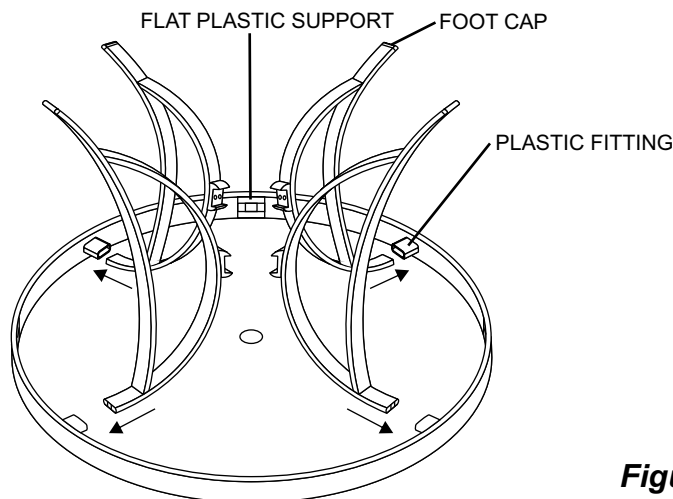
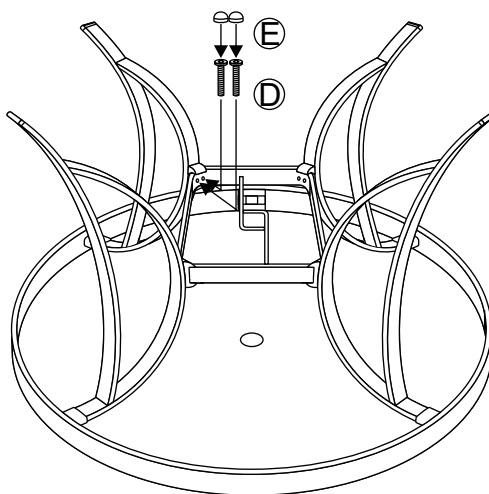

Figure 1
Figure 2
- 1 With the help of another person, place tabletop upside down on a flat, non-abrasive surface to avoid scratching the glass or rim. Note the plastic fittings on the inside of the table rim. These fittings slide. Adjust, if necessary, by sliding the fittings into proper position as shown in the diagram below. If applicable, adjust flat plastic supports so they are spaced evenly throughout the inside of the rim. This will ensure best possible support of the glass in the table. Make sure table bumpers are in place in the small holes on the table legs. Guide each of the table legs into the plastic fittings in the table rim as shown in **Figure 1**.
- 2 Build the leg assembly. Attach the legs to the leg connector bracket using the bolts as shown in **Figure 2**. Guide these bolts through the holes in the leg connector bracket and into the fixed nuts already in place in the legs. Hand tighten only 2-3 revolutions only. Important note: Hand tighten only as some adjustments may be necessary to ensure legs are properly aligned. Repeat procedure on other three legs, adjusting as necessary to ensure the legs are properly aligned.
Step 3: Important: We recommend 2 people work together to assemble the chair. Note the arrow labels on the "U" bar and the rocker assembly. Also note the horseshoe shape of the rocker plate. Point the open end of the horseshoe away from you. The arrows on the rocker assembly should be pointing towards you. Set the chair frame on the rocker assembly with front of the seat facing you and the arrows on the "U" bar pointing towards you as shown in *Figure 1*. This is very important for a safe, balanced rocking motion. **If chair frame has been properly positioned on the rocker assembly, all arrows on the "U" bar and rocker assembly will be pointing in the same direction.**
Step 4: Critical Step: The "U" metal plates must be installed in the proper location. Read this step and carefully examine. Insert the "U" metal plate, so that the "U" bar and rocker plate are between both sides of the "U" metal plate. Make sure that the holes in the "U" metal plate are completely aligned with the holes in the "U" bar as shown in *Figure 1*. Guide the bolts through the holes on the top side of the "U" metal plate, through the holes in the "U" bar portion of the chair, through the holes in the rocker plate and then, most importantly, through the holes in the bottom side of the "U" metal plate. It is very important that the holes in the bottom portion of the "U" metal plate be placed directly beneath the holes in the rocker plate. Add a spring washer and a nut to each bolt as shown in *Figure 2*. **Hand tighten nuts 3-4 revolutions only.** Repeat the same procedure on the other side.